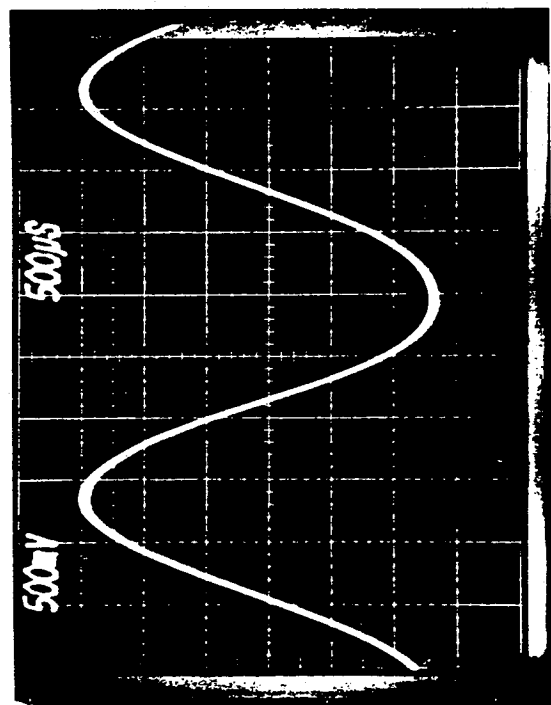

Figure 5-9
3. Check the signal on pin 7 of U8; it should be approximately as shown in Figure 5-9.